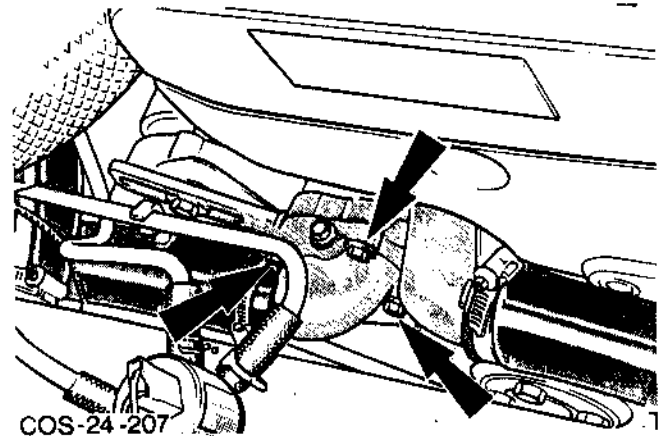

Fig.1. Thermostat housing securing bolts.
6. Remove thermostat housing cover (3 bolts), refer to Fig.1.